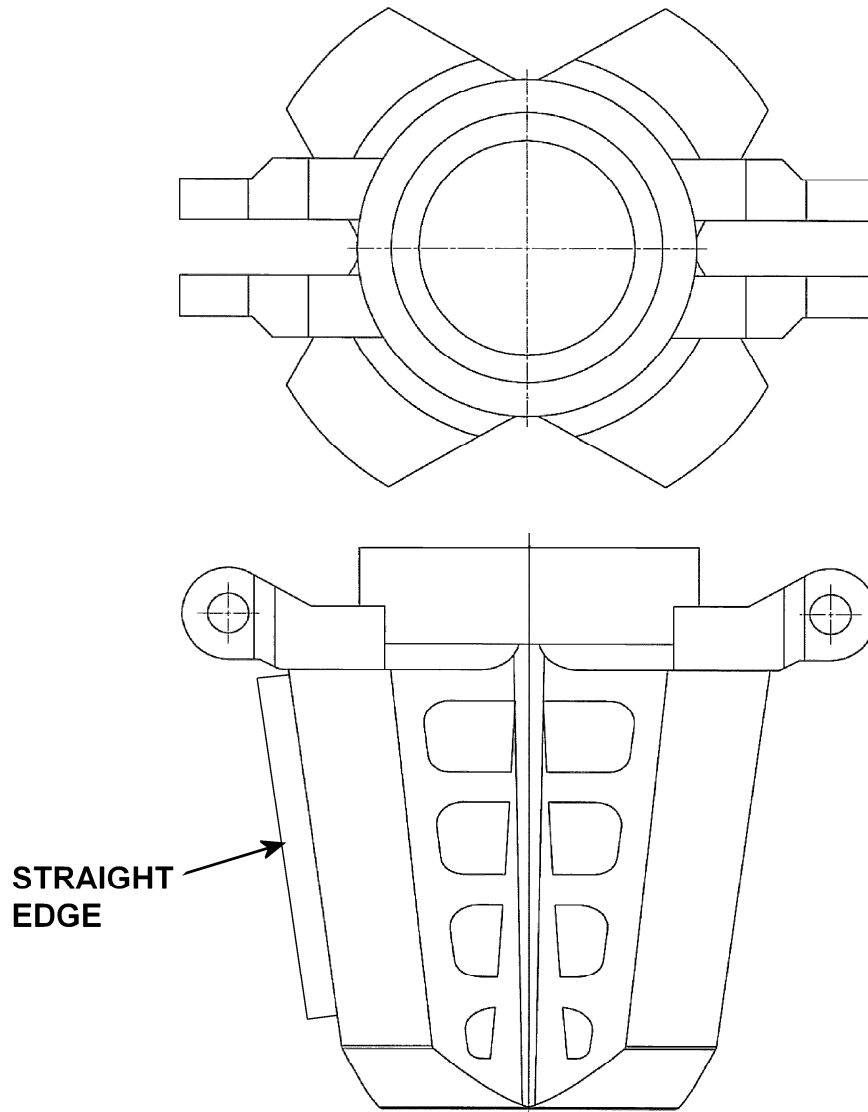

FIG. 4
1. Without removing the slips from the lift arms, with the slips fully out of the bowl and with the safety latch engaged, clean and visually check the individual slip segments. Gouges or scoring of the back taper on the slip segments is an indicator of problems with debris or improper setting of the slips in the bowl which could also indicate damage to the bowl surface where the slips set (Fig 4). Using a slip set with damaged back taper surfaces will affect the proper setting of the slips on the pipe and will continue to cause potential damage to the tapered bowl surface in the spider. Slip sets found in this condition should be removed from service until they can be checked thoroughly and either reconditioned (refer to Inspection section) or replaced.